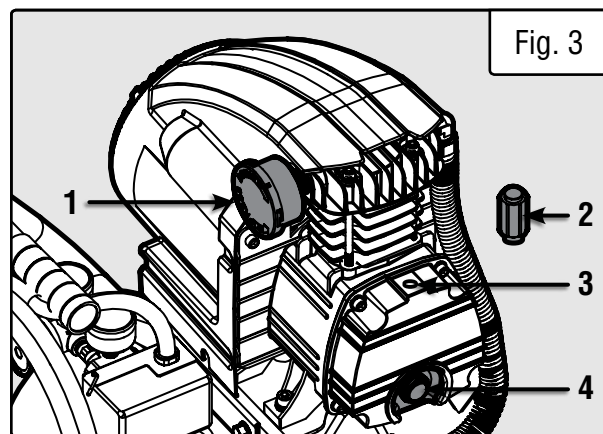
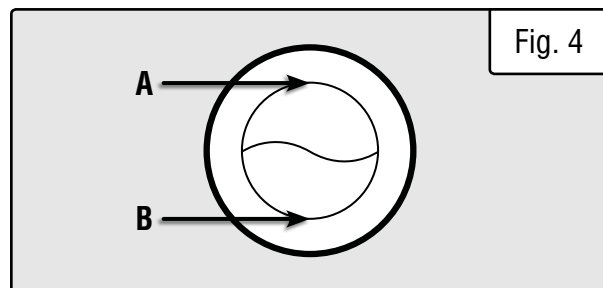

Fig. 3
Fig. 4
1. Remove the plastic plug. Install the air filter (Fig. 3 - 1) before starting the air compressor.
Remove the plastic plug from the oil fill port (Fig. 3 - 3). Slowly fill with the provided semi-synthetic oil while observing the oil gauge (Fig. 3 - 4). Fill until the oil lands in the middle of the red circle between A and B (Fig. 4). Install the oil cap breather (Fig. 3 - 2) before starting the air compressor.
Check the oil level before each operation. When the oil level is below B, refill the compressor with semi-synthetic or synthetic air compressor oil until the oil reaches the center of the red circle in the oil gauge. Do not let oil level exceed A (Fig. 4).